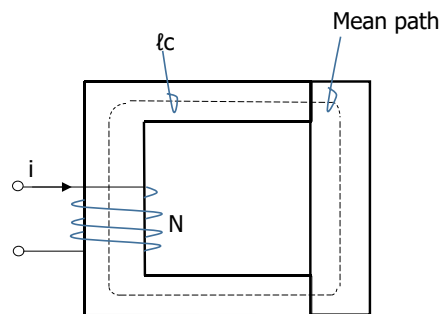

Figure Q5
5. With reference to Figure Q5, determine the V_{rms} induced in the coil if a 50 Hz ac current of $0.3 \sin(\omega t)$ A is flowing through the coil. Inductance L is given as 0.24 H..